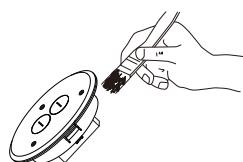
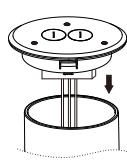

Fig. 12
Fig. 13
9. Apply PVC glue to the exterior of the leveling ring and place the cover leveling ring assembly inside floor box and set in place. (Fig. 12 & Fig.13)